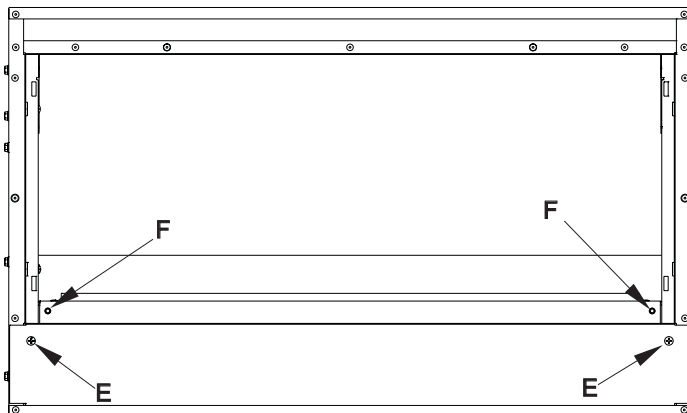

Figure 42
6. Remove screws at "E". Remove bottom of face by lifting and set aside in a safe location. **See Figure 42.**
7. Remove screws at "F". Remove burner assembly and set aside in a safe location. **See Figure 42.**
15. Place burner assembly inside fireplace and replace screws removed earlier ("F" in **Figure 42**).
22. Replace bottom panel and re-insert two black, truss-head screws ("E" in **Figure 42**).